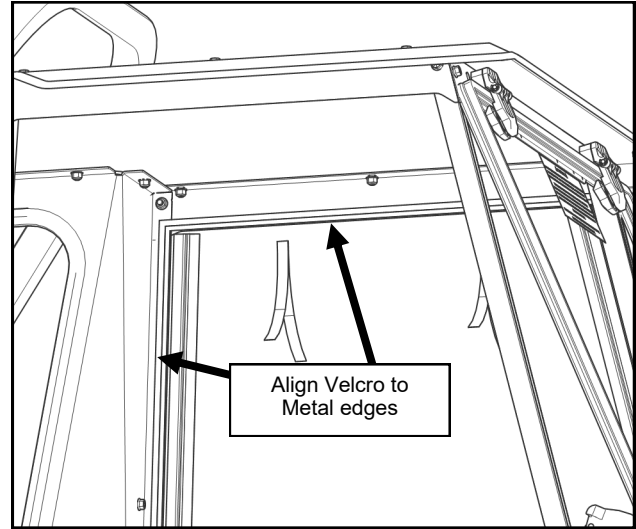

Fig. 29.2 (Align Door Curtain top and rear)
29.2 See fig. 29.2. Hold the door curtain to the inside faces of the cab at the top and rear of the door opening, with the inner edges of the Velcro aligned to the bottom edge of the door header, and the inner edge of the rear leg. Pull off the release tape from the top strip and adhere the Velcro to the side header, working from the upper rear corner forward.